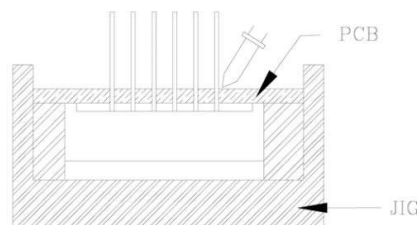

Fig.1
① When soldering the lead of LED in a condition that the package is fixed with a panel (See Fig.1), be careful not to stress the leads with iron tip.